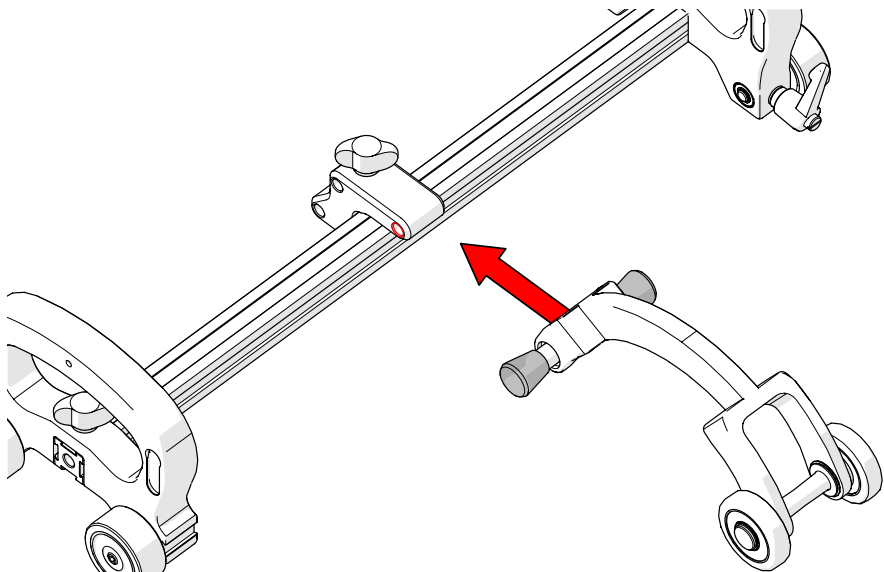

Fig. 53 - Align pins with mounting holes
2. Align the pins with the mounting holes of the double chain mount (Fig. 53).